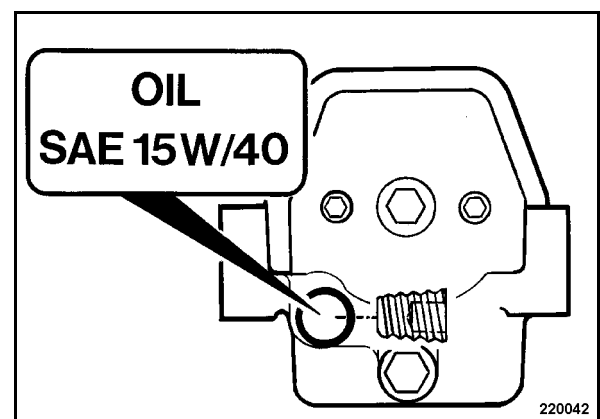

Fig. 56
- Unscrew the plug (Fig. 56) and fill with engine oil.
- Screw the plugs back in (Fig. 56).